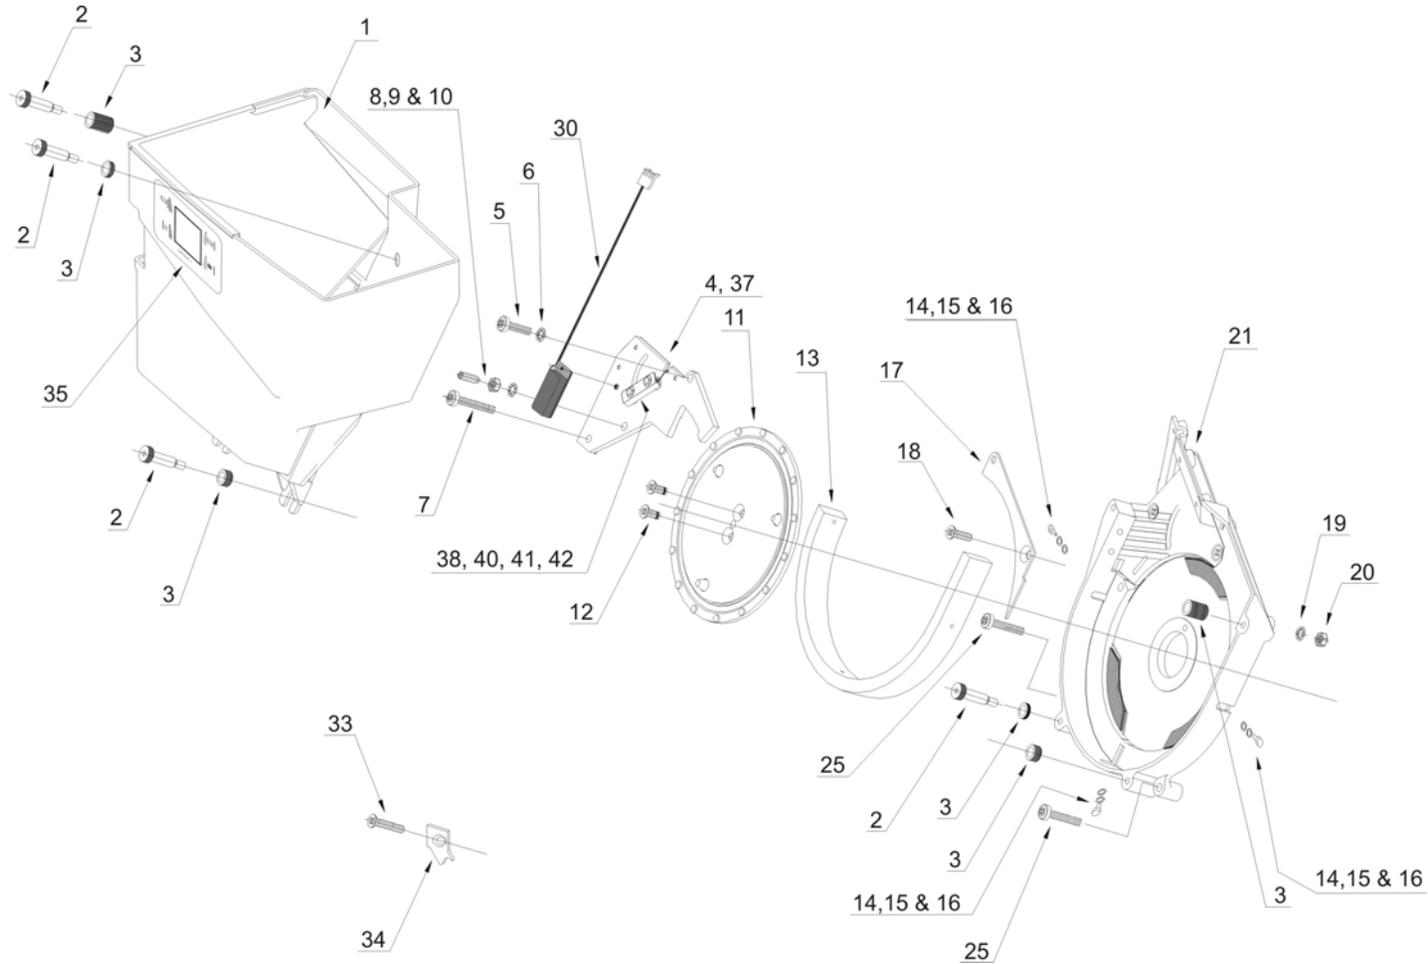
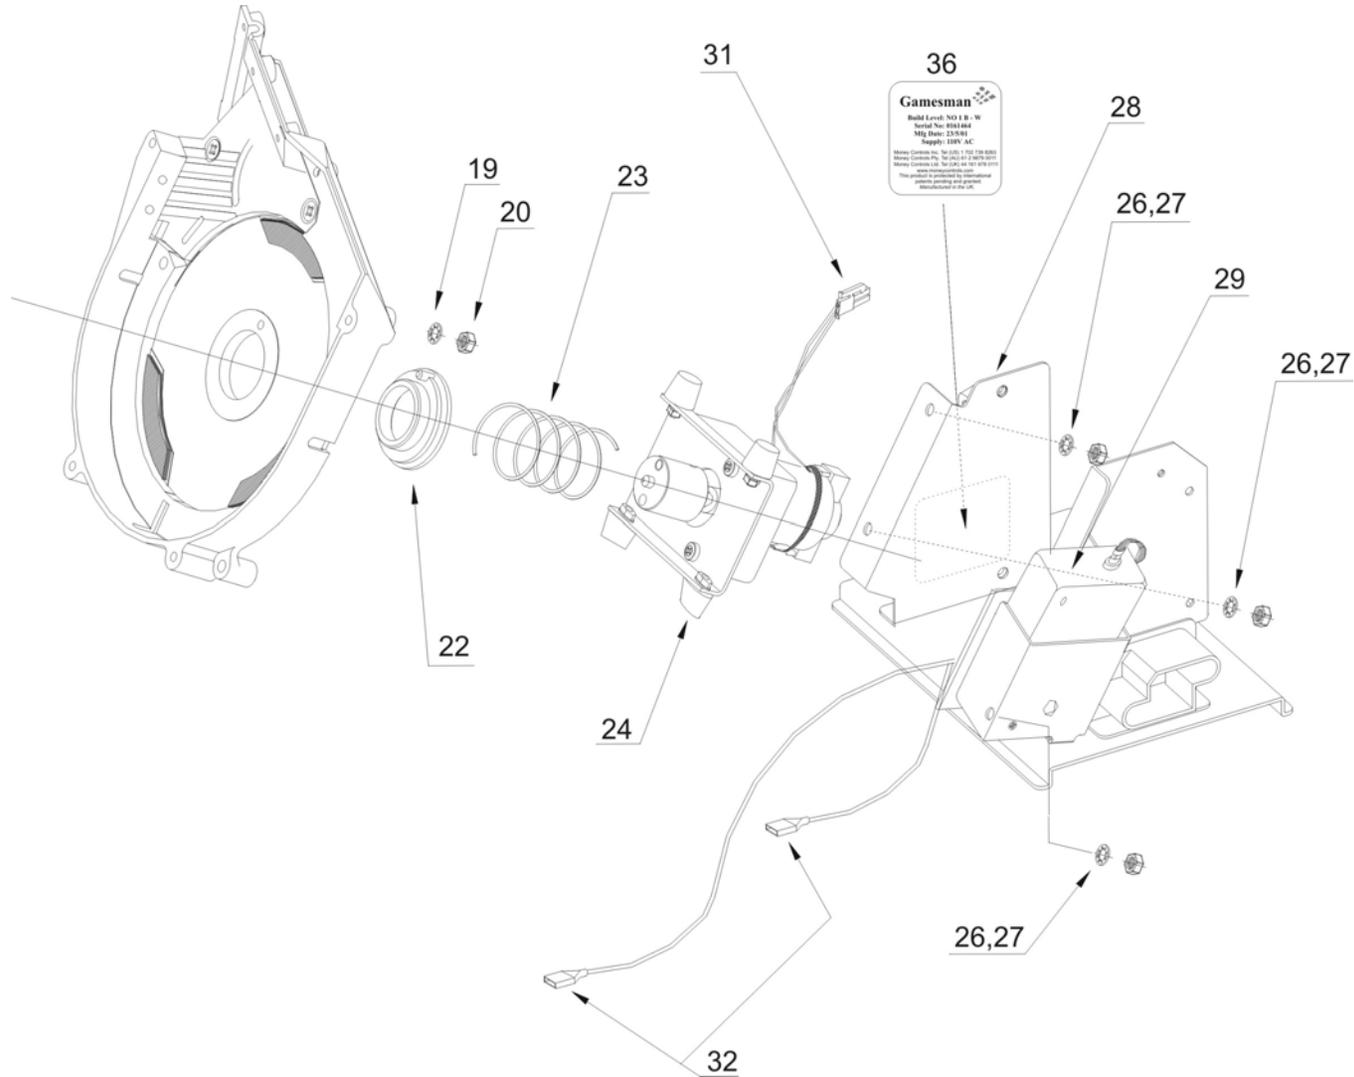

Figure 2: Exploded Drawing – Bowl and disk assembly
Figure 3: Exploded Drawing – Motor, frame and base assembly
After 5,000,000 the disk unit Items 11 - [Figure 2] and the bridge plate Item 4 - [Figure 2] should be replaced.
Refer to Figure 2 and Figure 3 Exploded Diagram Pages 14 and 15.
- 1) Disconnect the opto loom Item 30 - [Figure 2] from the control board.
- 2) Disconnect the motor loom Item 31 - [Figure 3].
- 3) Disconnect the level sense wires from the bowl Item 32 - [Figure 3].
- 4) Using the 4mm Allen Key, remove the two top M6 x 25 shoulder screws, Item 2 - [Figure 2] and coloured spacers, Item 3 - [Figure 2]. The bowl can then be lifted off the bottom two M6 x 25 shoulder screws.
- 5) Remove the bottom right hand M6 x 25 shoulder screw, Item 2 - [Figure 2] and coloured spacer/s, Item 3 - [Figure 2].
- 6) Remove the M6 x 20 poz pan head screw, Item 5 - [Figure 2]. Remove the M6 x 30 poz pan head screw, nut and shake-proof washer, Items 7 - [Figure 2 and 26 & 27 - Figure 3]. The bridge plate unit, Item 4 - [Figure 2], can now be removed.
- 7) Take hold of the motor to keep it in position. Then remove the two M6 x 16 poz countersunk Anu-lok screws, Item 12 - [Figure 2], from the centre of the disc unit, Item 11 - [Figure 2]. With the two screws removed the drive assembly, spring, rotary bearing and disc unit can be removed, Items 11 - [Figure 2 and 22, 23 & 24 - Figure 3].
- 8) Remove the M6 x 20 poz countersunk screw, nut and shake-proof washer, Items 18, 19 & 20 - [Figure 2], then remove the wiper spacer, Item 17 - [Figure 2].
- 9) ^(See note 1) Remove the two M6 x 30 poz pan screws, nuts and shake-proof washers, Items 25- [Figure 2 and 26 & 27 - Figure 3], holding the hopper housing to the frame unit. Remove the housing, Item 21 - [Figure 2], from the frame unit, Item 28 - [Figure 3].
- 10) ^(See note 1) Remove the three M4 poz pan screws, 4mm plain washer and the 4mm – shake-proof washer, Items 14, 15 & 16 - [Figure 2], holding the horseshoe, Item 13 - [Figure 2], to the housing, Item 21 - [Figure 2].
- 1) Place horseshoe, Item 13 - [Figure 2], in the housing, Item 21 - [Figure 2] and line up the holes in the housing with the 3 x M4 tapped holes in the horseshoe. Fix the horseshoe in place with the M4 screw, 4mm plain washer and the 4mm shake-proof washer, Items 14, 15 & 16 - [Figure 2]
- 2) Take the wiper spacer, Item 17 - [Figure 2], and with the M6 x 20 poz countersunk screw Item 18, 19 & 20 - [Figure 2] fit the wiper to the housing, Item 21 - [Figure 2]. At this stage leave the screw only hand tight so the bridge plate, Item 4 - [Figure 2], can be easily fitted.
- 3) Take the rotary bearing, spring and drive assembly previously removed, Items 22, 23 & 24 - [Figure 3] and locate the pin on the rotary bearing into the small hole in the housing. With the spring mounted on to the drive bush, locate the drive assembly into the rotary bearing.
- 4) Holding the drive assembly in place, place the **NEW** disc unit, Item 11 - [Figure 2], onto the locating pip on the end of the drive bush. Using the two M6 x 16 poz countersunk Anu-lok screws, Item 12 - [Figure 2], fix the disc to the drive bush.
- 5) Fit the housing unit, Item 21 - [Figure 2], to the frame unit, Item 28 - [Figure 3], with the 2 x M30 poz pan head screws, nuts and shake-proof washers, Items 25 - [Figure 2 and 26 & 27 - Figure 3].
- 6) Take the **NEW** bridge plate unit, Item 4 - [Figure 2] and position the bridge plate unit on the housing so that the two 6.2mm mounting holes line up with the two mounting holes in the housing. Fix the bridge plate unit to the housing using the M6 x 20 poz pan head screw, Item 5 - [Figure 2] and 6mm shake-proof washer, Item 6 - [Figure 2], in the top right hand hole.
In the bottom left hand fixing hole, ^(See Note 2) fit the M6 x 30 poz pan head screw, nut and washer Items 7 - [Figure 2 and 26 & 27 - Figure 3].
Note 2:- If the build is a No 6, 7 or 8 then the M6 x 35 poz countersunk screw Item 34 - [Figure 2] and filler piece extension Item 33 - [Figure 2] are fitted at this point.
- 9) Fit the bottom right hand shoulder screw, Item 2 - [Figure 2] and colour spacer, Item 3 - [Figure 2], to the housing according to the label on the bowl.
- 10) Fit the Bowl Unit Item 1 - [Figure 2] and secure in place with the two shoulder screws, Item 2 - [Figure 2] and colour spacers, Item 3 - [Figure 2]. Ensure the spacers are correct according to the bowl label.
Please refer to Figure 2.
¹. See Figure 2– screws 5 and 7.
². See Figure 2 – Bridge Plate assembly - parts 4 and 37 – 42.